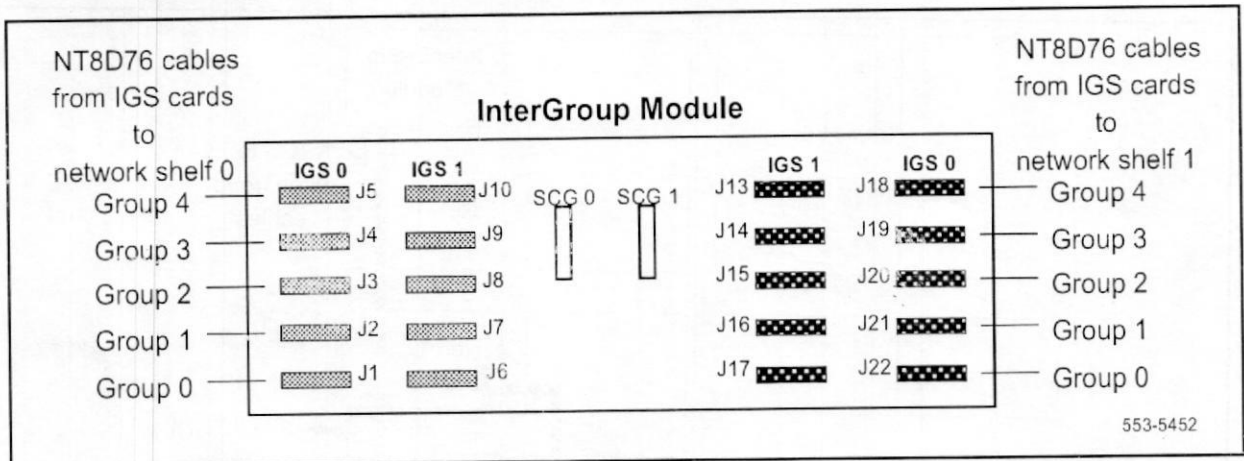

Figure 100
- 6 Connect the NTND14 cable pairs to the QPC441 3PE Cards in the Network Modules. Tables 22 and 23 list the CNI to 3PE connections. Figures 100 through 104 show the recommended cable routing.
When referencing Figures 100 through 104, note where cables are routed. If the figure shows the cable along the right side of the module, route the cable up the right side of the column. If the figure shows the cable along the bottom of the module, route the cable along the front cable trough.
- Figures 100 through 104 show the recommended cable routing.